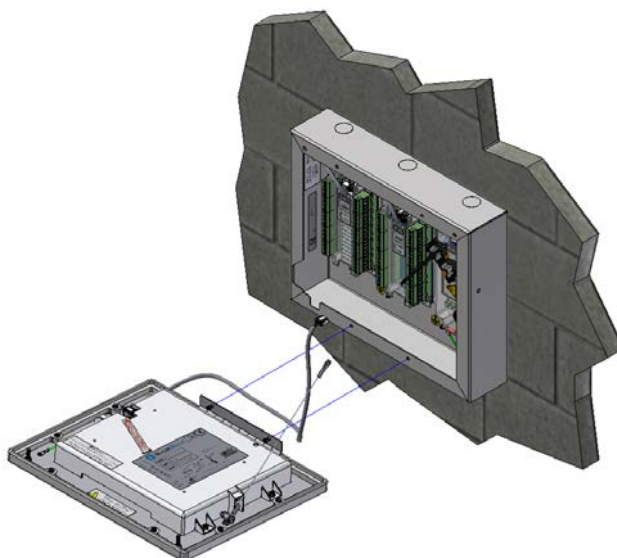

Figure 2.12: Attach Front Panel and Lanyard
4. Attach front panel to alarm panel backbox using screws removed in step 2 (Figure 2.12).
5. Attach lanyard to alarm panel backbox using screws removed in step 3 (Figure 2.12).